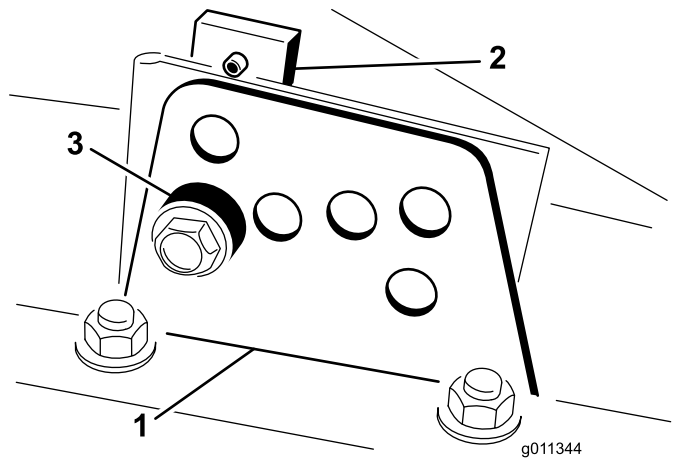

Figure 25
2. Loosen the bolt securing each height-of-cut bracket to the height-of-cut plate (front and each side) as shown in Figure 25.
4. While supporting the chamber, remove the spacer (Figure 25).